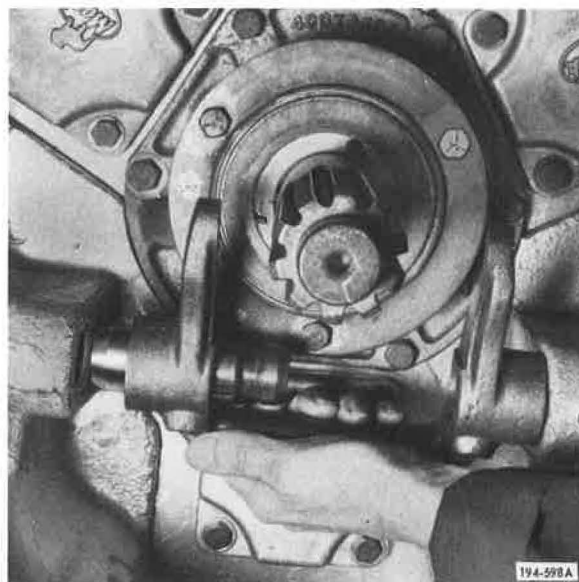

Figure 421. Installing Yoke and Stub Shaft
39. Insert clutch release stub shaft into clutch release yoke, place in position in bell housing, and tap stub shaft into housing. See Figure 421.